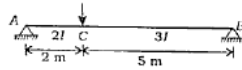

Fig. 4
6. Using conjugate method, determine the rotations at  $A, B$  and deflection at  $C$  point for a beam shown in Fig. 4,